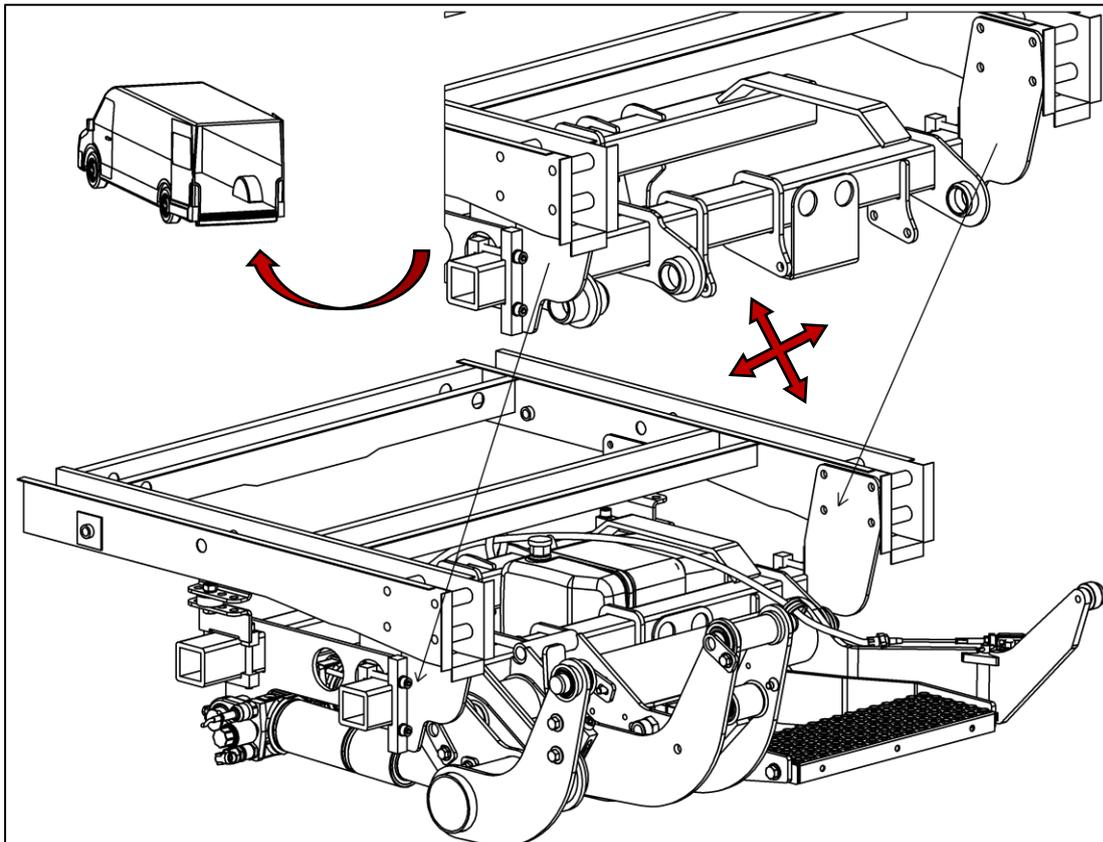

Fig. 27
- Line up the installation adapters on the lifting gear with the manufacturer's holes in the vehicle chassis (see Fig. 27).